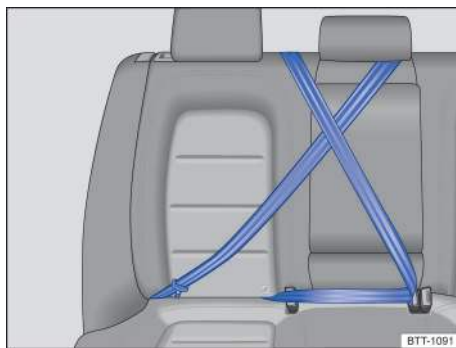

Fig. 39 Keep unused safety belts away from children in child restraints.
You must take special precautions when installing a LATCH/UAS child restraint behind the front passenger or driver seats. Always route the center safety belt and the unused safety belt for the seating position where the child restraint is being installed securely out of the child's reach. Securing the safety belts will help prevent a child from playing with an unused safety belt and becoming entangled with it → **fig. 39**.
- Route the safety belt around the head restraint for the center seating position → **fig. 39**.
- Buckle the safety belt → fig. 39.
You must take special precautions when installing a child restraint with the vehicle safety belt or with LATCH/UAS lower universal anchorages behind the front passenger seat or behind the driver seat. Always route the center safety belt and the unused safety belt for the seating position where the child restraint is being installed securely out of the child's reach. Securing the safety belts will help prevent a child from playing with an unused safety belt and becoming entangled with it → page 71, Using a child restraint on the rear seat, → fig. 39.
front passenger seat or behind the driver seat. Always route the center safety belt and the unused safety belt for the seating position where the child restraint is being installed securely out of the child's reach. Securing the safety belts will help prevent a child from playing with an unused safety belt and becoming entangled with it → page 71, *Using a child restraint on the rear seat*, → fig. 39.